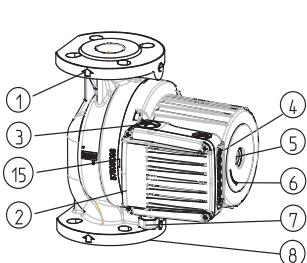
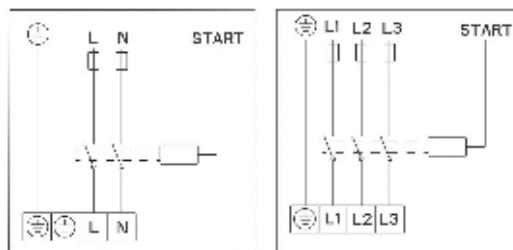

Fig.2
Fig. 4
- Direction of water flow through the pump should match with direction, indicated by an arrow on the pump casing (Fig.2-POS.1).
- The connecting flanges are designed for nominal pressure NP 6/10 (Fig.2 – POS.8).
- GHN (basic, auto), GHNM (basic, auto) pumps have a single hydraulic casing (Fig.2 – POS.8).
The hydraulic casing of the pump can be insulated only to the cleft between the motor and the hydraulic casing. Openings for condensate drainage should remain uncovered and enable the drainage from the stator housing. Similarly, the same openings must be uncovered also in heating systems, when only thermal insulation of hydraulic casing is implemented (Fig. 2, 3, POS. 15). Electric motor casing, on which the openings for condensate drainage are located, under no condition should not be insulated!
The connecting wire has to be connected over a cable entry M20 (Fig.2 – POS.7).
Electrical connections of the pump must be carried out in accordance with the wiring diagram (Fig. 4), attached on the bottom of motor cover. Before doing that unwind the upper cover (Fig. 2 - POS. 2).
In the pumps of types GHN (basic auto), GHND (basic, auto), GHNMD (basic, auto), GHNMD (basic, auto) the rotor is submerged and provided with special water-lubricated bearings. Before putting the pump into operation, it has to be filled with water and deaerated. Deaerate the pump by unscrewing a screw on the back side of the electric motor (Fig.2-POS.5). Air will flow out through the cleft between the motor shaft and the bearing. When water starts to flow out, close the valves at both the suction and pressure side of the pump. Start the pump and check the direction of shaft rotation. In case of a wrong direction a built-in flash lamp will start to blink with red light.
Each pump is able to cover the areas of three hydraulic characteristics. To achieve this, it has an inbuilt electric motor with three different revolution speeds. For achieving the selected characteristics or speeds ① ② ③, the pump has a push button  (Fig.2-POS. 4), with which we change speeds.
Switch off the pump, close the valve on both pressure and suction sides of the pump, unscrew the vent for deaeration, place the screwdriver (Fig.2-POS.5) in the notch on the shaft and twist as longer as friction forces allow. Then screw the vent for deaeration. The unit is not intended for children, adults with physical, mental or emotional impairments, as well as unskilled people, unless under close supervision.